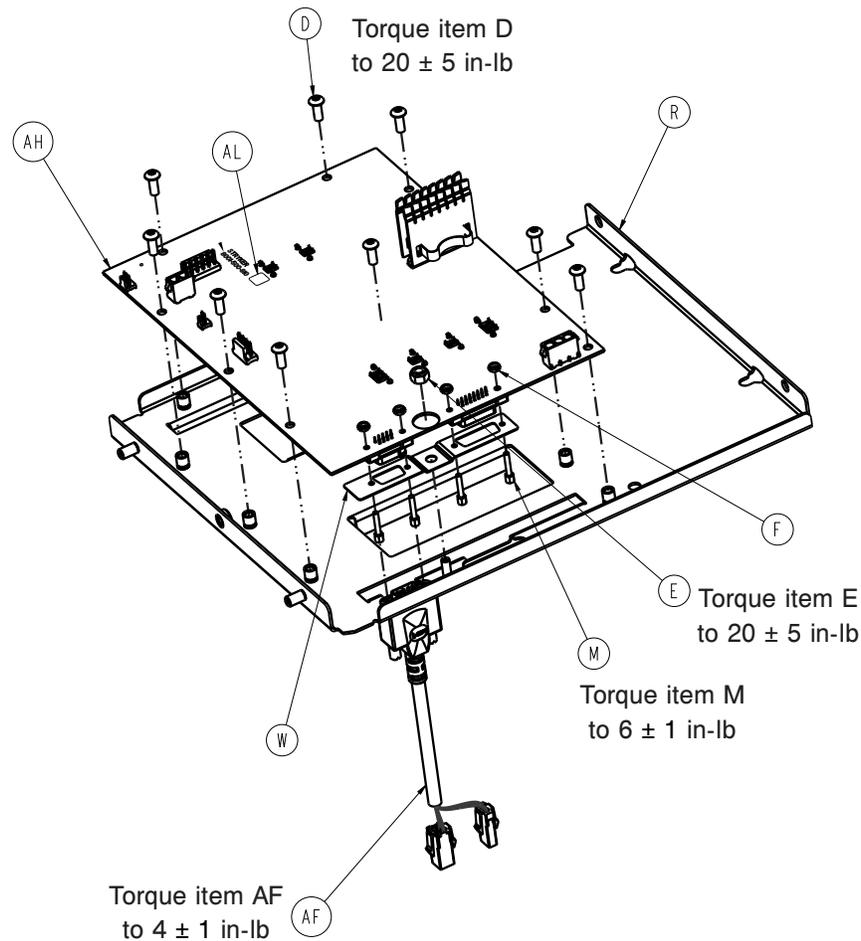

Figure 31 – Fluid grounding bracket
16. Using a T25 Torx driver, remove the nine screws (D) that secure the FMB to the control assembly base (R) (Figure 31). Save the screws.
17. Using a 3/8" socket, remove the nut (E) that secures the fluid grounding bracket to the control assembly base (Figure 31). Save the nut.